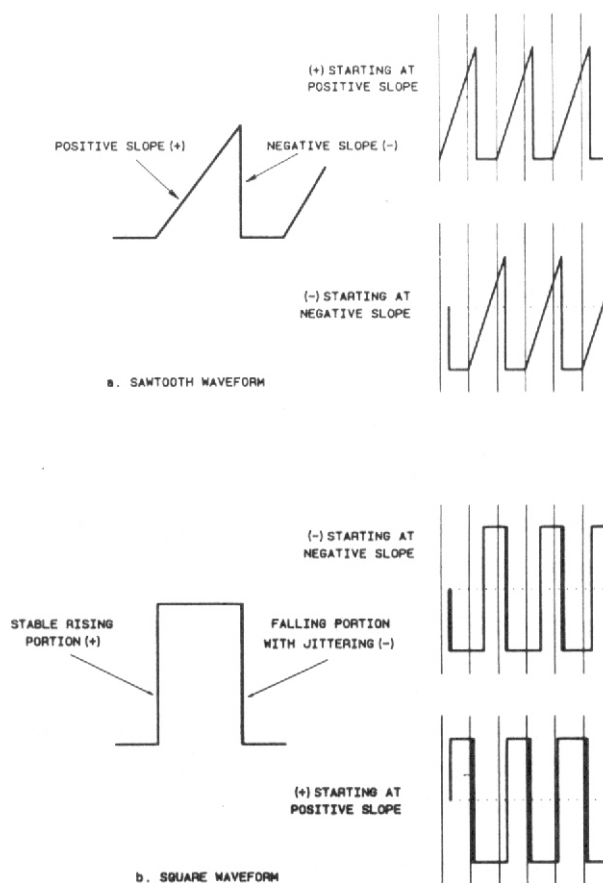

Fig. 2-4. TRIGGER POINT SELECTION
(2) Trigger Point Selection
The SLOPE switch (30) determines whether the sweep shall start from the rise-starting point or from the fall-starting point. (See Figure 2-4).